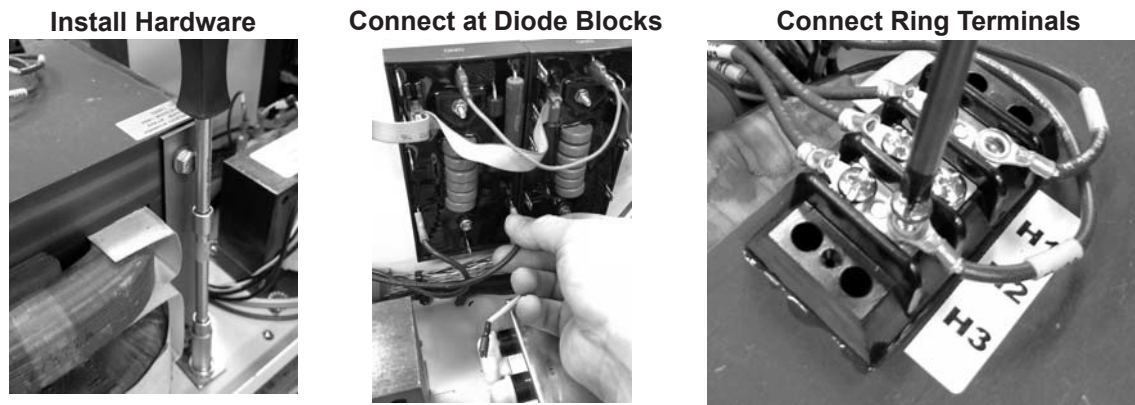

Figure 9 Installing Transformer
1. See Figure 9. Reinstall transformer.